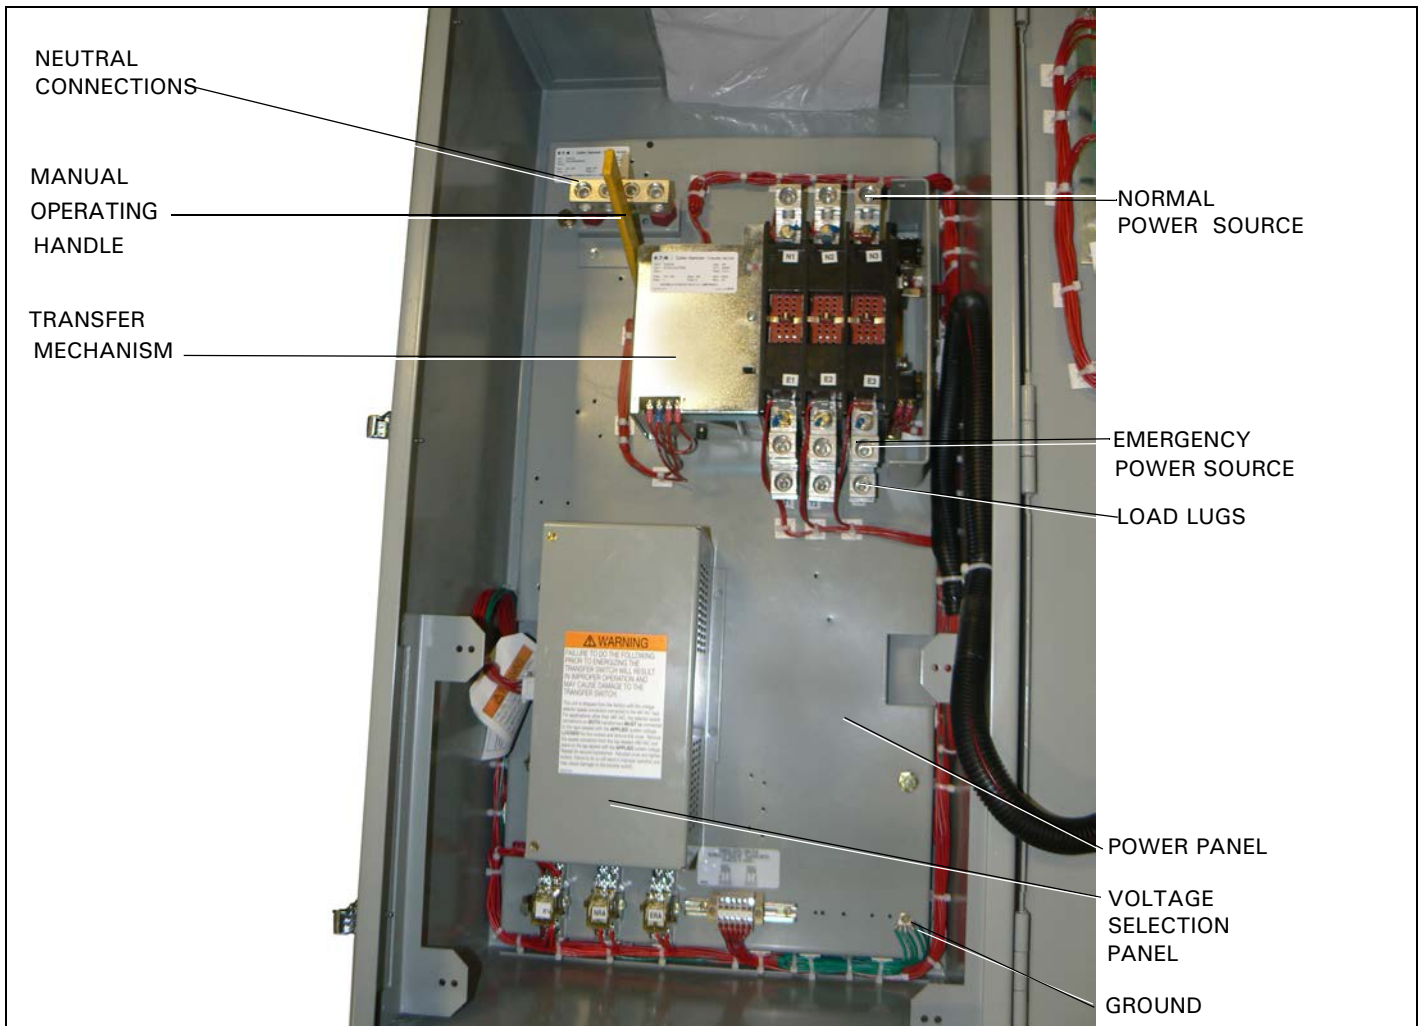

Figure 25. 100A, 3-Pole, ATS Interior Components (Open Transition).
For 4 pole transfer switches, connect the load cables (TN), Source 1 or utility supply (NN), and Source 2 or generator supply (EN). Refer to Figures 25 and 26 for the location of all parts discussed in this document.
*Load cables MUST be connected and torqued BEFORE installing the SUPPLY cables (see Figures 25 and 26).